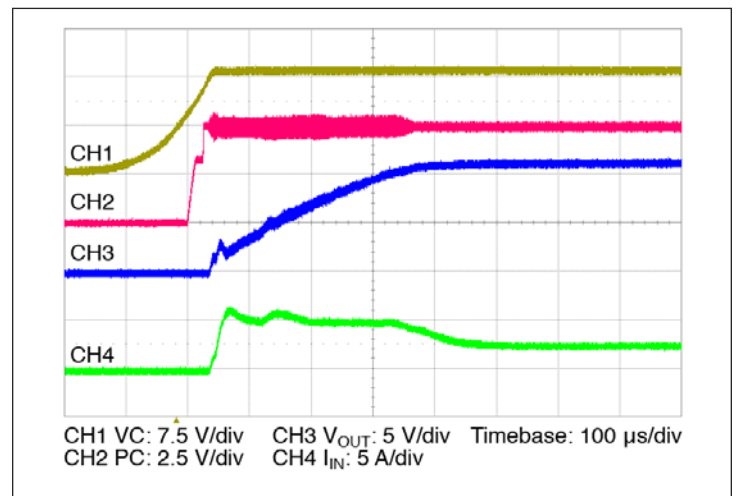

Figure 14 — Start up from application of V_C ; V_{IN} pre-applied $C_{OUT} = 500 \mu$ F
- Stand Alone Operation (VC applied after V_{IN}): In this case the module output will begin to rise upon the application of the VC voltage (See Figure 14). The Adaptive Soft Start circuit (See Section 10) may vary the output rate of rise in order to limit the inrush current to its maximum level. When starting into high capacitance, or a short, the output current will be limited for a maximum of 900 µsec. After this period, the adaptive soft start circuit will time out and the module may shut down. No restart will be attempted until VC is re-applied, or PC is toggled. The maximum output capacitance is limited to 500 µF in this mode of operation to ensure a successful start.